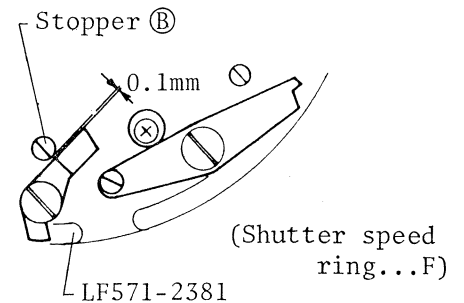

Fig.23-2
1. When setting shutter speed ring to F, clearance between ㊸ stopper and LF571-2381 release relay lever should be within 0.1mm as shown in Fig.23-2.